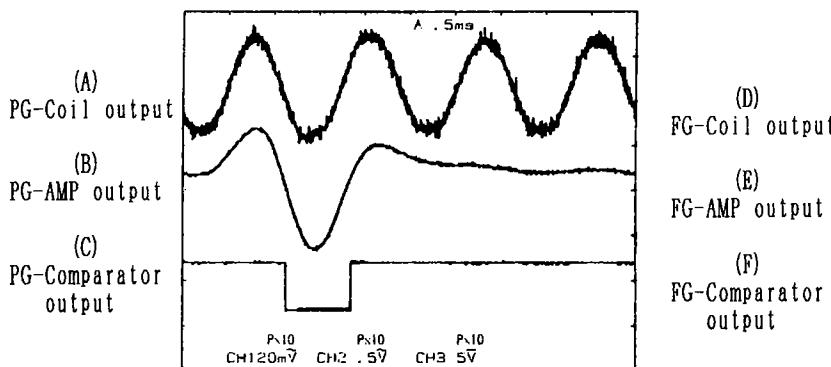

Fig. 4 PG signal
PG-Coil generates PG-signal(Fig. 4-(A)) by turning Drum motor and PG-AMP converts to PG-AMP output signal, as shown in Fig. 4-(B)
Further, PG-Comparator converts PG-AMP output signal(Fig. 4-(B)) to pulse wave form, as shown in Fig. 4-(C) and it is input to terminal DPO of servo LSI(MSM6557) as reference phase signal.